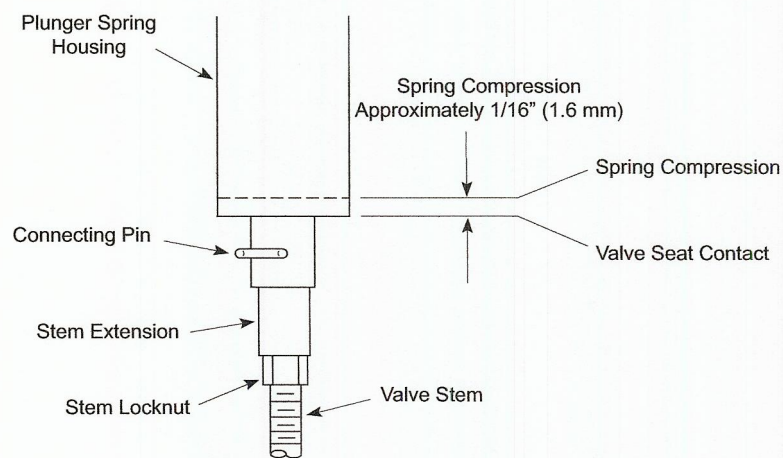
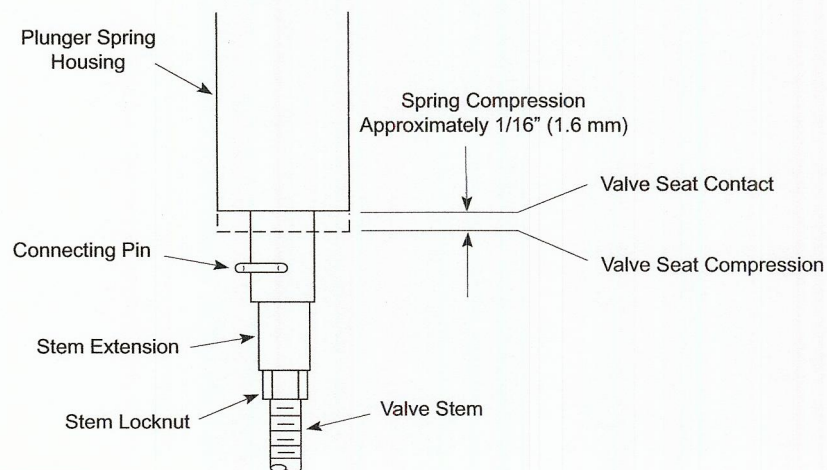

Figure-4 Valve Compression Stem Up.
Figure-5 Valve Compression Stem Down.
Check to assure correct plunger spring compression. The length of the stem extension should be adjusted so that the valve disc seats before the actuator reaches the end of the stroke. The balance of the actuator stroke is taken up in the plunger spring compression, which should be approximately 1/16 inch (1.6 mm). This applies pressure on the disc in the closed position(s) and compensates for disc and seat wear. Refer to Figure-5 for VB-7213 (stem down closed). For three way applications (VB-73x3 or VB-9313) refer to Figure-4 and Figure-5.
2. Observe the plunger spring compression as in Figure-5.
2. Observe the plunger spring compression as in Figure-4.
4. Observe the plunger spring compression as in Figure-5.